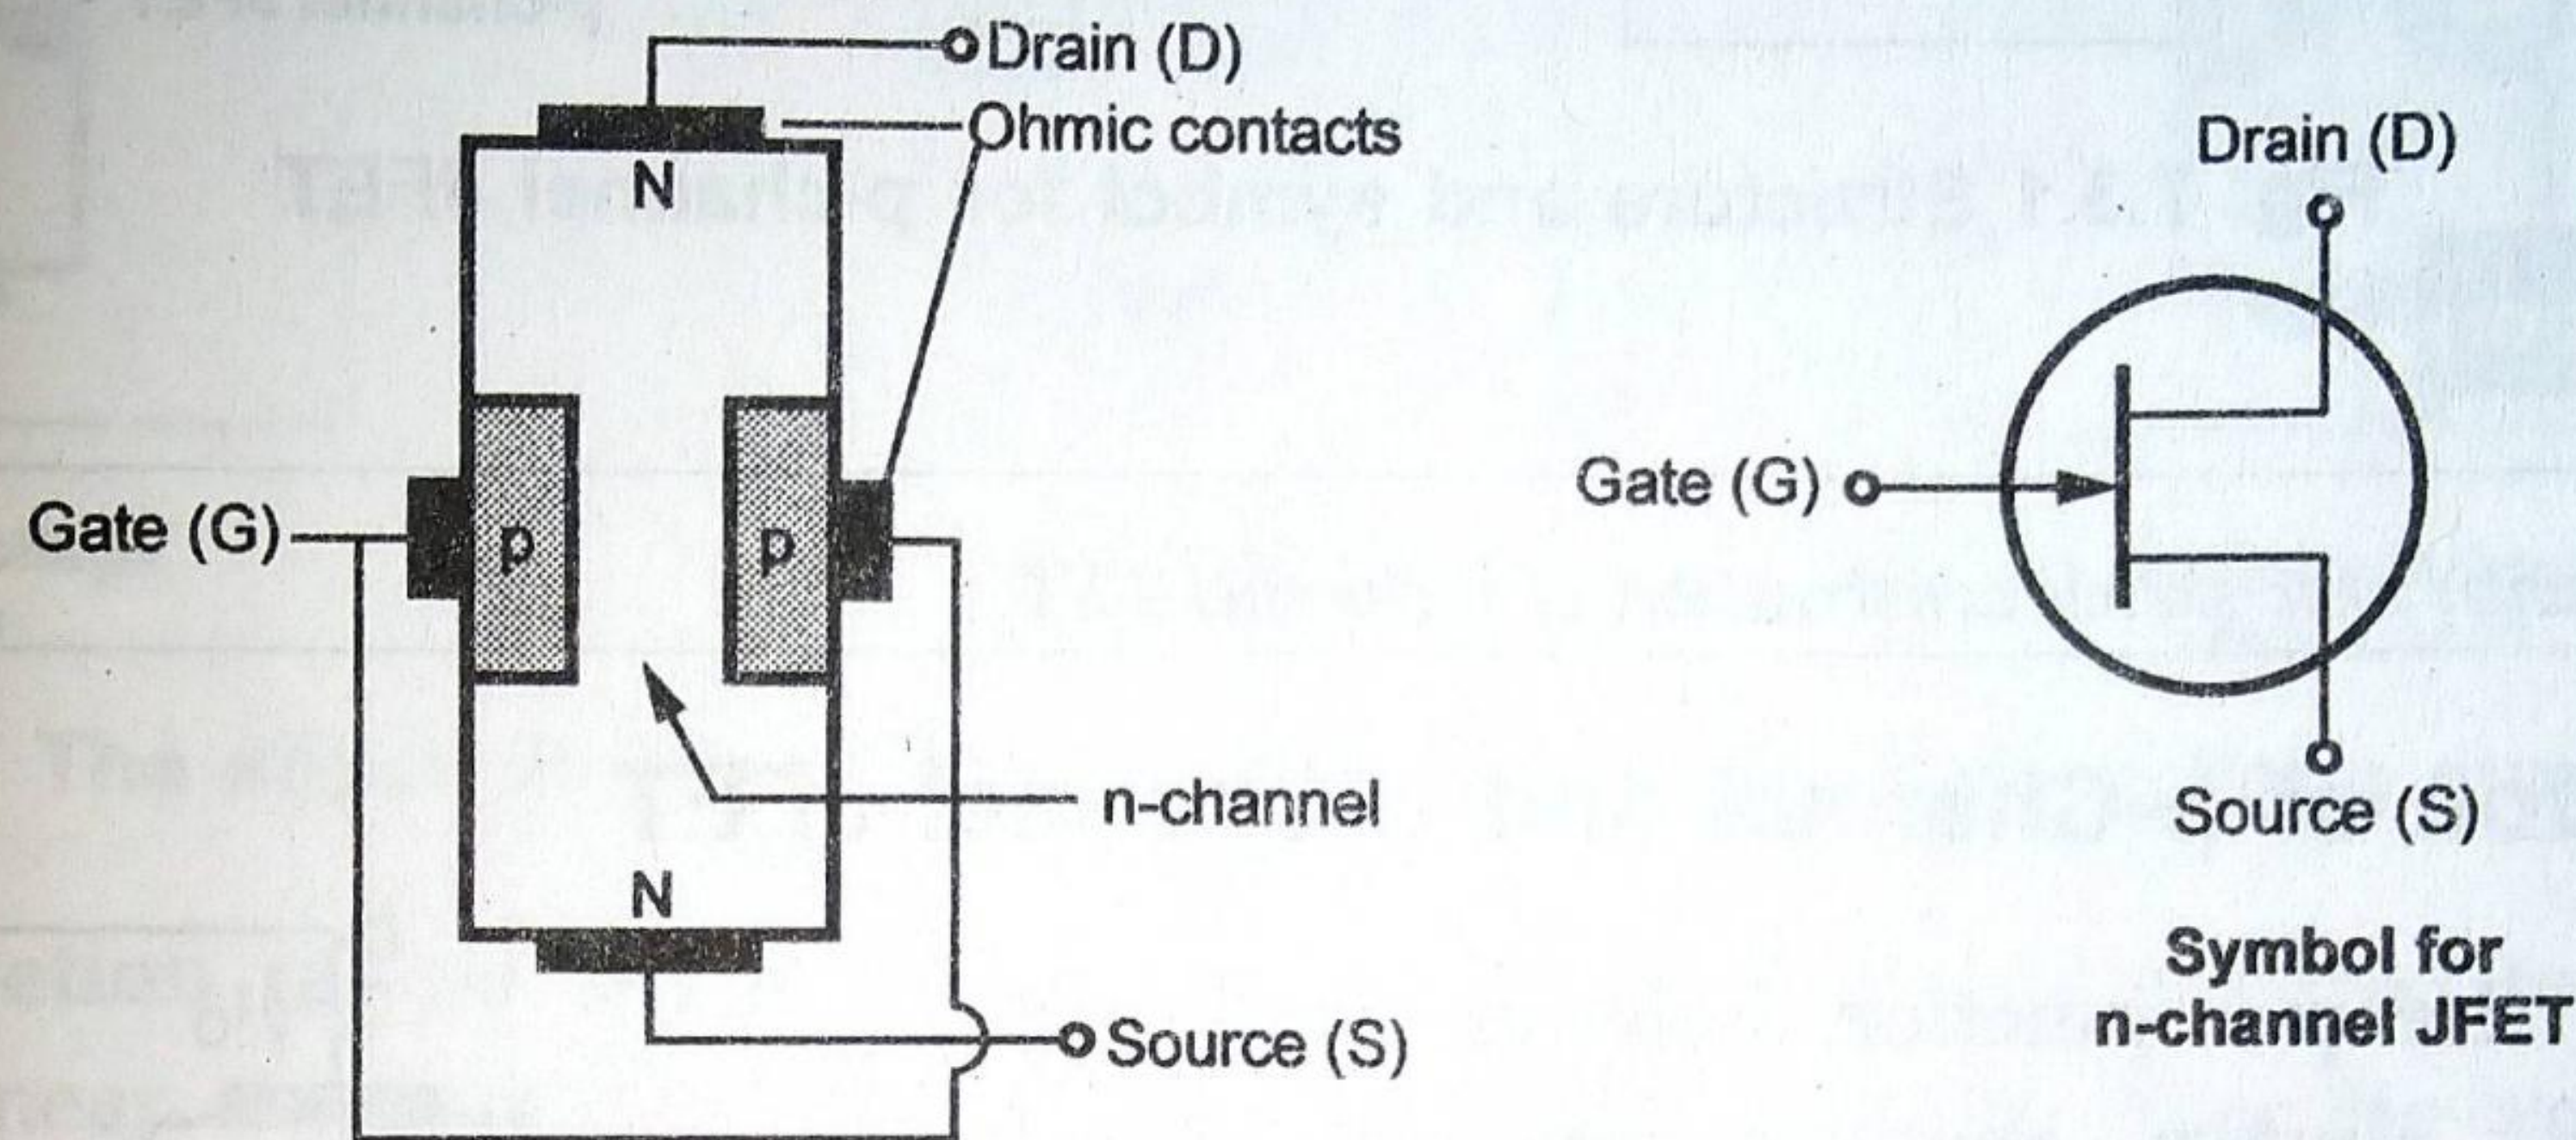

Fig. 7.2.1 Structure and symbol for n-channel JFET
- The Fig. 7.2.1 shows structure and symbol of n-channel JFET. A small bar of extrinsic semiconductor material, n type is taken and at its two ends, two ohmic contacts are made which are the drain and source terminals of FET.
- The electrons enter the channel through the terminal called **source** and leave through the terminal called **drain**. The terminals taken out from heavily doped electrodes of p type material are called **gates**. Usually, these electrodes are connected together and only one terminal is taken out, which is called **gate**, as shown in the Fig. 7.2.1.